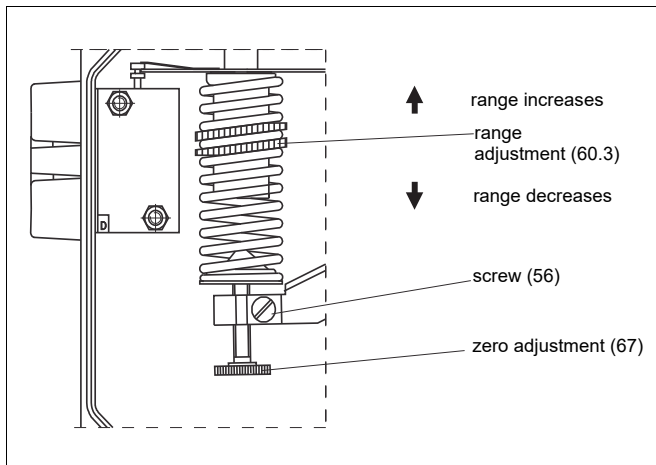

Fig. 9 Zero and range adjustments
3. Set the input signal to the other limit value. The valve should be entirely open at 100 %, i.e. 1.0 bar (15 psi) or 0.2 bar (3 psi). The valve should start to operate to closed direction at 98 %, i.e. 0.98 bar (14.0 psi) or 0.22 bar (3.2 psi). The range, i.e. turning angle, changes when the effective length of the spring (60) is increased or decreased by turning the range adjustment nut (60.3). See Fig. 9.
5. Screw on the pointer (32) into place so that the yellow line is in the direction of the valve closing member. Tighten the screw (57).
- Set the input signal at the closed limit of the valve so that it is 2 % i.e. 0.02 bar (0.2 psi) higher or lower than the limit value, e.g. $0.2 + 0.02 = 0.22$ bar ($3 + 0.2 = 3.2$ psi) or $1.0 - 0.02 = 0.98$ bar ($15 - 0.2 = 14.8$ psi). Loosen the screw (56). Turn the zero adjustment screw (67) so that the actuator comes slowly to the closed limit. Tighten the screw (56) always after the zero adjustment. The valve should open slightly with a 4 % change in signal, that is 0.03 bar (0.5 psi), e.g. $0.2 + 0.03 = 0.23$ bar ($3 + 0.5 = 3.5$ psi) or $1.0 - 0.03 = 0.97$ bar ($15 - 0.5 = 14.5$ psi). See Figure 9.
The range, i.e. turning angle, changes when the effective length of the spring (60) is increased or decreased by turning the range adjustment nut (60.3). See Fig. 9.
- Screw on the pointer (32) into place so that the yellow line is in the direction of the valve closing member. Tighten the screw (57).